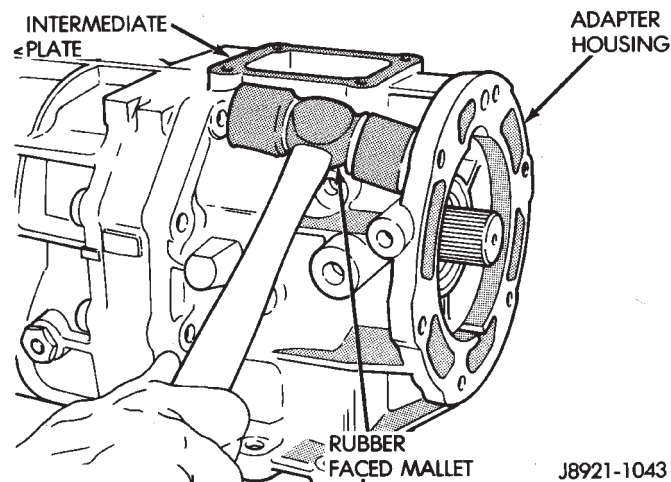

Fig. 28 Loosen Adapter/Extension Housing
(16) Loosen adapter/extension housing by tapping it loose with plastic mallet (Fig. 28).